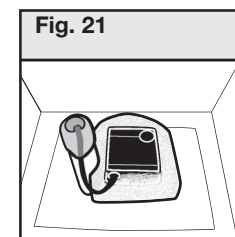

Fig. 21
- Fold the top of the rubber cap over the raised post to seal off the bowl (Fig. 21).